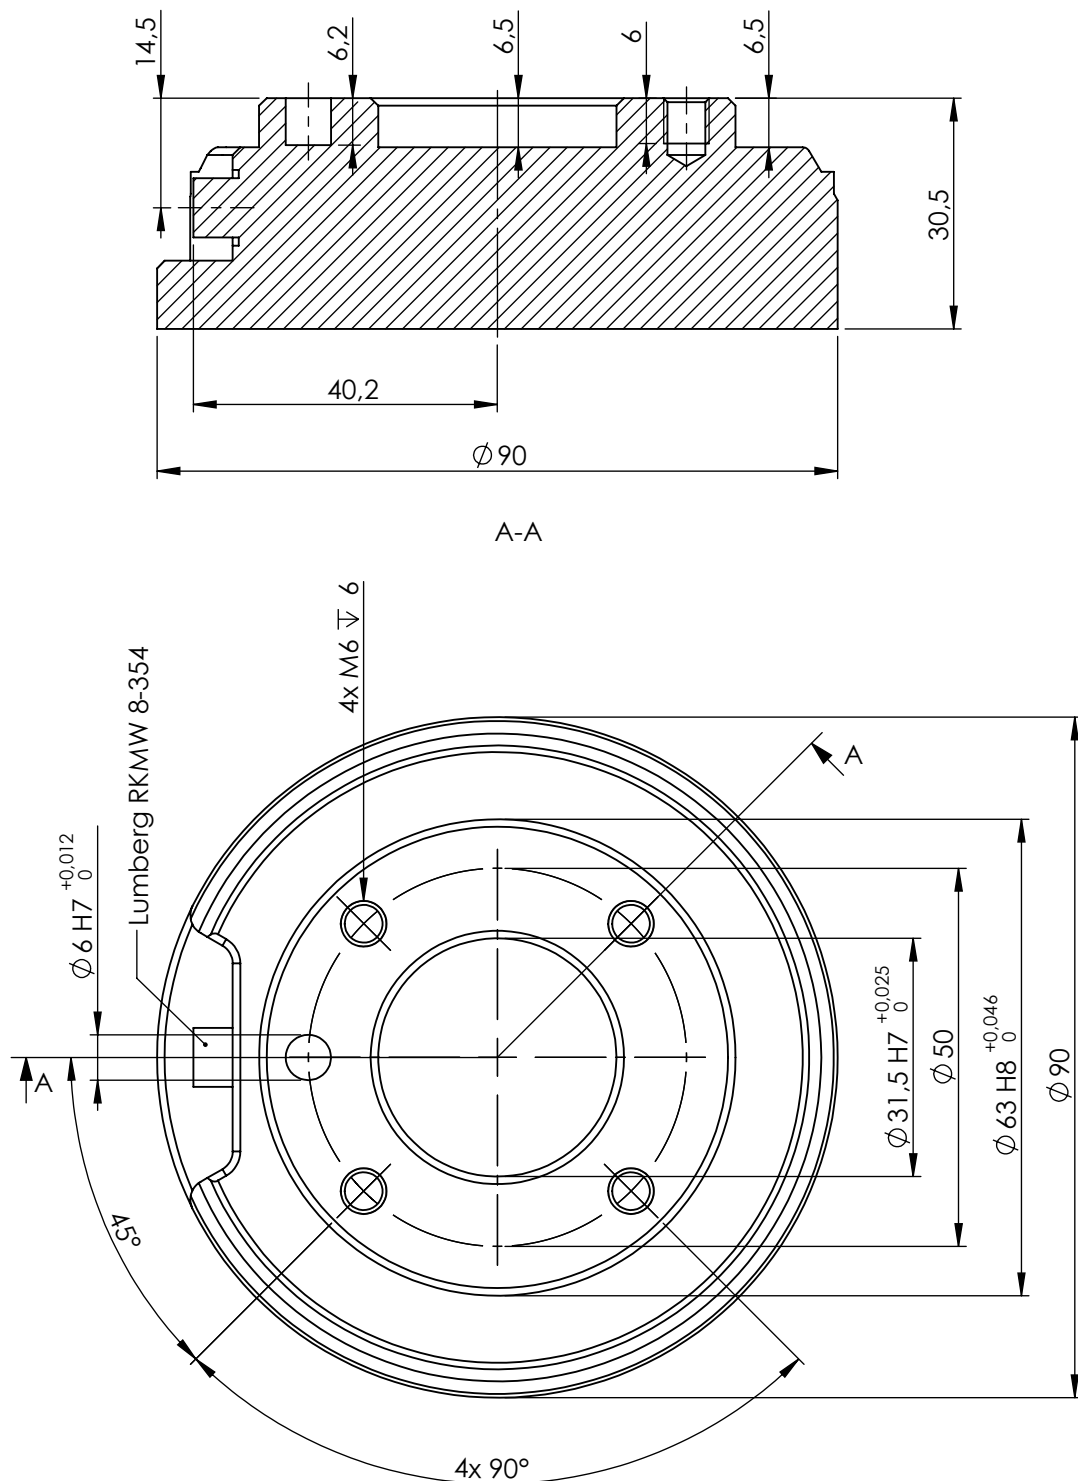

Figure 3.2: The tool output flange, ISO 9409-1-50-4-M6. This is where the tool is mounted at the tip of the robot. All measures are in mm.
**Tool** The robot tool flange has four M6 thread holes for attaching a tool to the robot. The holes need to be tightened with 9 N·m. If very accurate repositioning of the tool is desired, the Ø6 hole is provided for use with a pin. Figure 3.2 shows where to drill holes and mount the screws.